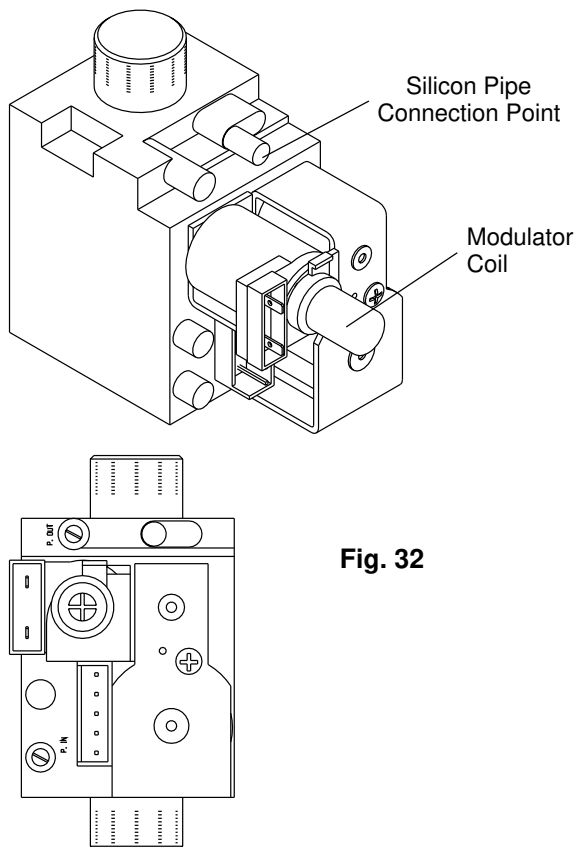

Fig. 32
8.13 Gas Control Valve (complete) Part No. 24&28- 1836 fig. 32